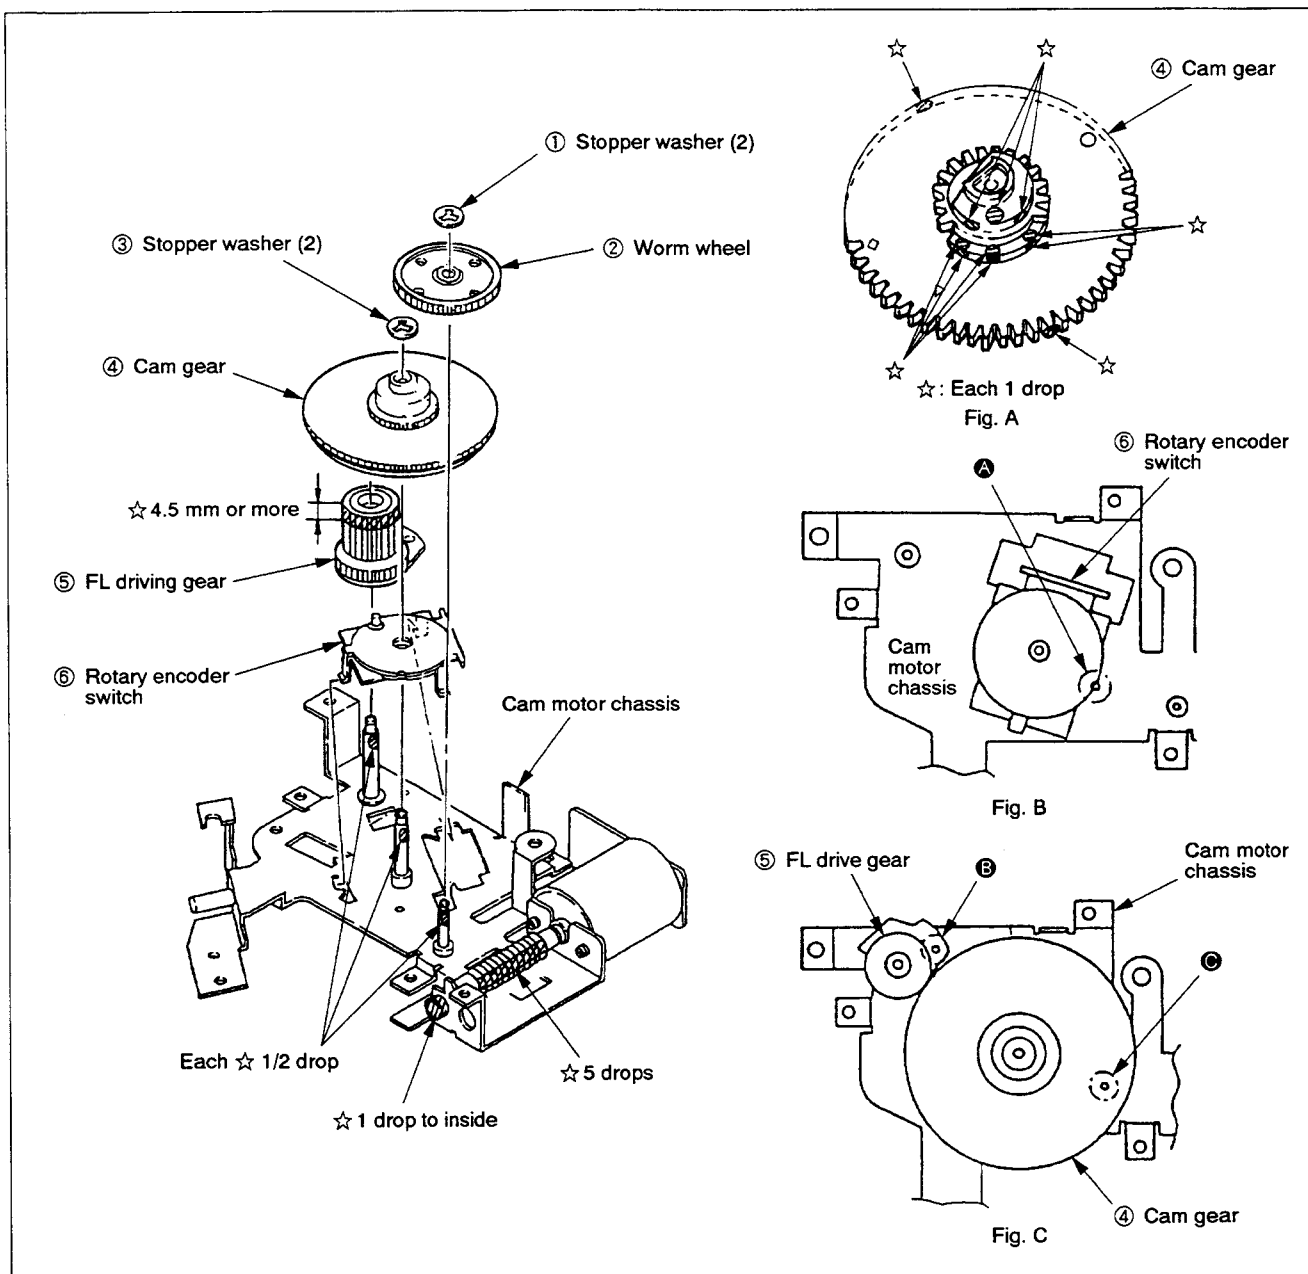

Fig. 3-19
### 3-17. ROTARY ENCODER SWITCH (Fig. 3-19)
- Apply FLOIL SG-055G (Jig Ref. No. J-12) to ☆ marked portions. (Fig. 3-19, A)